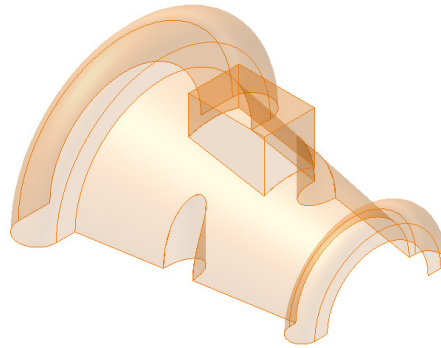

Figure 18-64 Model after covering the top face of the lofted surface
- i. Create a boundary patch to close the top face of the lofted surface, refer to Figure 18-64.
14. Select the top edges of the lofted surface and choose **OK** from the **Boundary Patch** dialog box; a boundary patch covering the top of the lofted surface is created, see Figure 18-64.